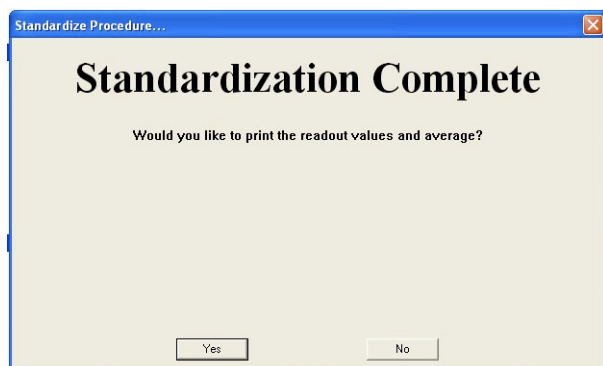

Figure 2-28, Standardization Couplet, Dialog
4. The next dialog box that appears will indicate standardization is complete and inquire if the average and burns for the last standard measured should be printed, select YES, Figure 2-28.